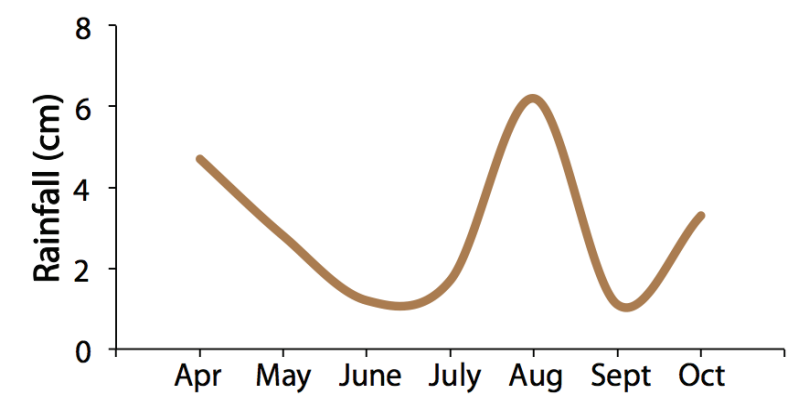

Figure 5. Monthly total rainfall at Meeting Place Organic Farm in 2018. Historical monthly averages exceed 7 cm for these months.
- Tony suspects very dry conditions (**Figure 5**) in the beginning and middle of the growing season stunted any potential response.